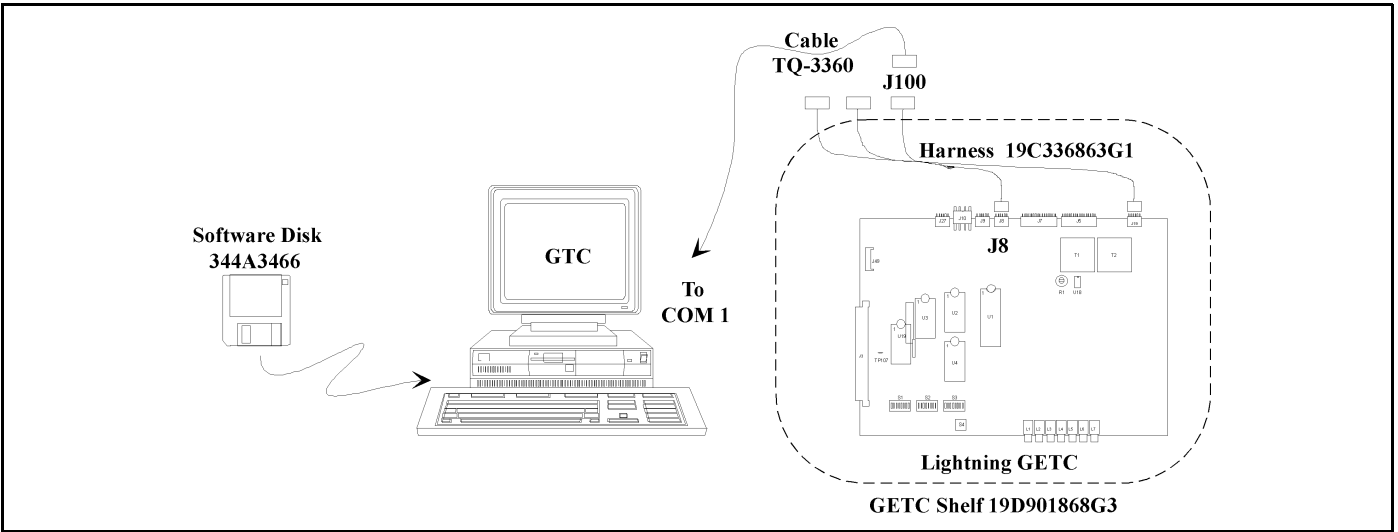

Figure 3 - Personality Programming
Figure 3 shows that Personality Programming is similar to Turbo Board Programming. Use the software kit TQ-3357 (344A3466G4) with an IBM compatible personal computer (PC), and an interconnecting cable, TQ-3360. The PC reads Personality information from a file on the PC. The PC serially transfers the Personality information to the GETC through J100 at the rear of the GETC Shelf.
Figure 3 also shows the TQ-3360 cable connected between the PC and J100. Use a male DB-25 to female DB-9 adapter to the PC if required. Harness 19C336863G1 provides the connection from J100 of the GETC Shelf to J8 of the GETC.